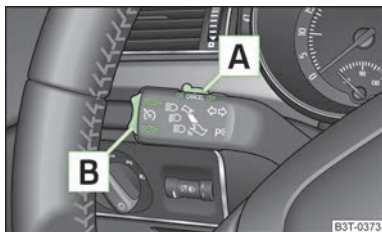

Fig. 124
- Turn the switch **A** » Fig. 124 into the **ON** position.
- Press the rocker button **B** » Fig. 124 on page 117 into the **RES** position.
- The stored speed can be **reduced** by pressing the rocker button **B** » Fig. 124 on page 117 into the position **SET**.
The cruise control system is **temporarily switched off** by pressing the switch  » Fig. 124 on page 117 into the spring-tensioned position **CANCEL** or by depressing the brake or clutch pedal.
» Turn the switch  » Fig. 124 on page 117 into the **OFF** position.